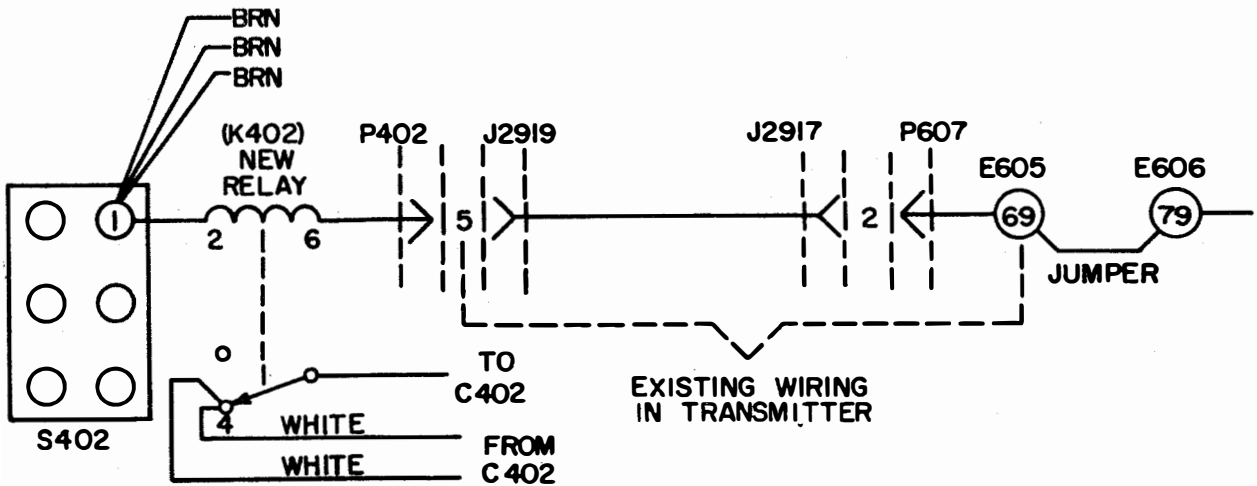

Figure 2. Pictorial Wiring Diagram
a. Figure 7-151. Control-Indicator C-1352/SRT, Schematic Diagram. Draw a diagram in the blank space directly below M-401 showing the new relay K-402 with connections to S-402, C-402, and P-402-5. See Figure 2.